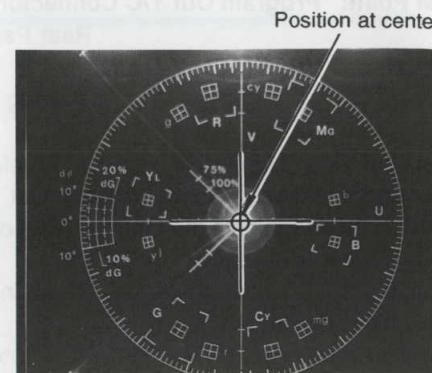

Fig. 4-7
- Adjust VR28 and VR30 so that the vector positions at the center on the Vectorscope as shown in the Fig. 4-7.